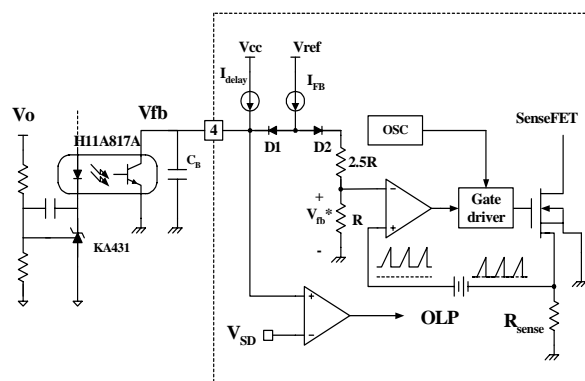

Figure 5. Pulse width modulation (PWM) circuit
2. Feedback Control : FSDM07652R employs current mode control, as shown in figure 5. An opto-coupler (such as the H11A817A) and shunt regulator (such as the KA431) are typically used to implement the feedback network. Comparing the feedback voltage with the voltage across the Rsense resistor plus an offset voltage makes it possible to control the switching duty cycle. When the reference pin voltage of the KA431 exceeds the internal reference voltage of 2.5V, the H11A817A LED current increases, thus pulling down the feedback voltage and reducing the duty cycle. This event typically happens when the input voltage is increased or the output load is decreased.
2.1 Pulse-by-pulse current limit: Because current mode control is employed, the peak current through the Sense FET is limited by the inverting input of PWM comparator (V_{fb}^*) as shown in figure 5. Assuming that the 0.9mA current source flows only through the internal resistor ($2.5R + R = 2.8\text{ k}\Omega$), the cathode voltage of diode D2 is about 2.5V. Since D1 is blocked when the feedback voltage (V_{fb}) exceeds 2.5V, the maximum voltage of the cathode of D2 is clamped at this voltage, thus clamping V_{fb}^* . Therefore, the peak value of the current through the Sense FET is limited.